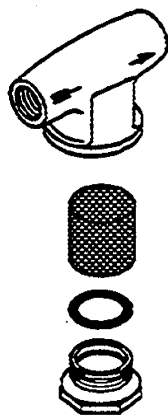

Figure 2-10. Water Strainer Assembly
- g. Cleveland Range recommends installing a 40-mesh water strainer at the locations shown in the recommended plumbing layouts. Use a 40-mesh water strainer of the type and construction illustrated in Figure 2-10.